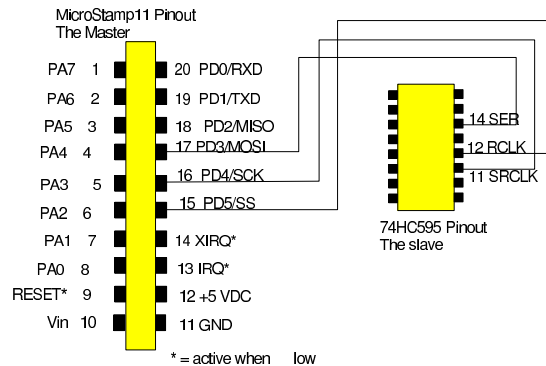

FIGURE 1. MicroStamp11's pinout
3.1. What is an input/output port? A micro-controller such as the MicroStamp11 has a number of pins as shown in the pinout of figure 1. The MicroStamp11 communicates with the outside world by changing the logical state of these pins or by reading the logical state of the pins. The *logical state* of a pin is said to be *high* if the voltage of the pin relative to ground is 5 volts. The logical state is low if the voltage on the pin is zero (relative to ground).
The majority of the pins on the MicroStamp11 are arranged into two *ports* that have the logical names PORTA and PORTD. PORTA has 8 pins associated with it (pins 1 through 8 on figure 1). PORTD has 6 pins associated with (pins 15-20). The other 6 pins on the MicroStamp11 are either used for power (pins 10-12) or they are special input pins that can interrupt the execution of a program (pins 9, 13, and 14). Our current interest is with the I/O pins associated with PORTA/PORTD (pins 1-8 and 15-20).